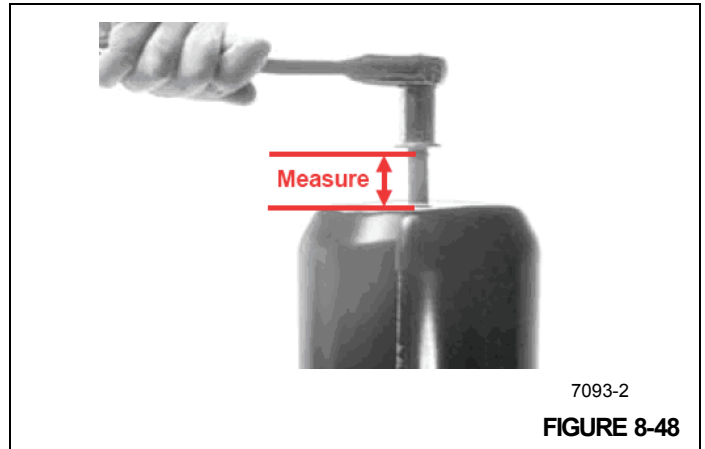

FIGURE 8-48
- The dual thread release bolt which reduces the travel of the release bolt by a factor of 2.4. in a 76 mm (3.00 in) stroke unit, for instance, the parking spring is fully caged when the release bolt is up approximately 33 mm (1.3 in) from the run position (Figure 8-48). After caging, completely exhaust air from the spring chamber.